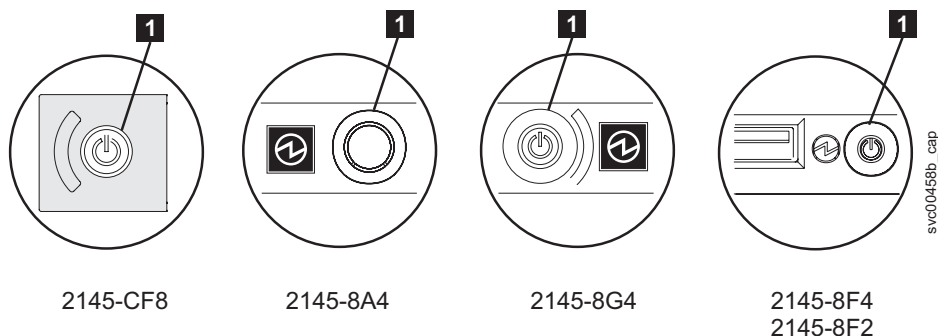

Figure 94. SAN Volume Controller models 2145-CF8, 2145-8A4, 2145-8G4, and 2145-8F4 or 2145-8F2 power-control button
3. Press and release the SAN Volume Controller models 2145-CF8, 2145-8A4, 2145-8G4, 2145-8F4, and 2145-8F2 power-control button **1**, as shown in Figure 94 on page 94. Wait one minute for the SAN Volume Controller to turn off. The other SAN Volume Controller nodes in the cluster might display an error code indicating that a node is missing from the cluster. Ignore this error code; it is automatically resolved when the repair is complete.